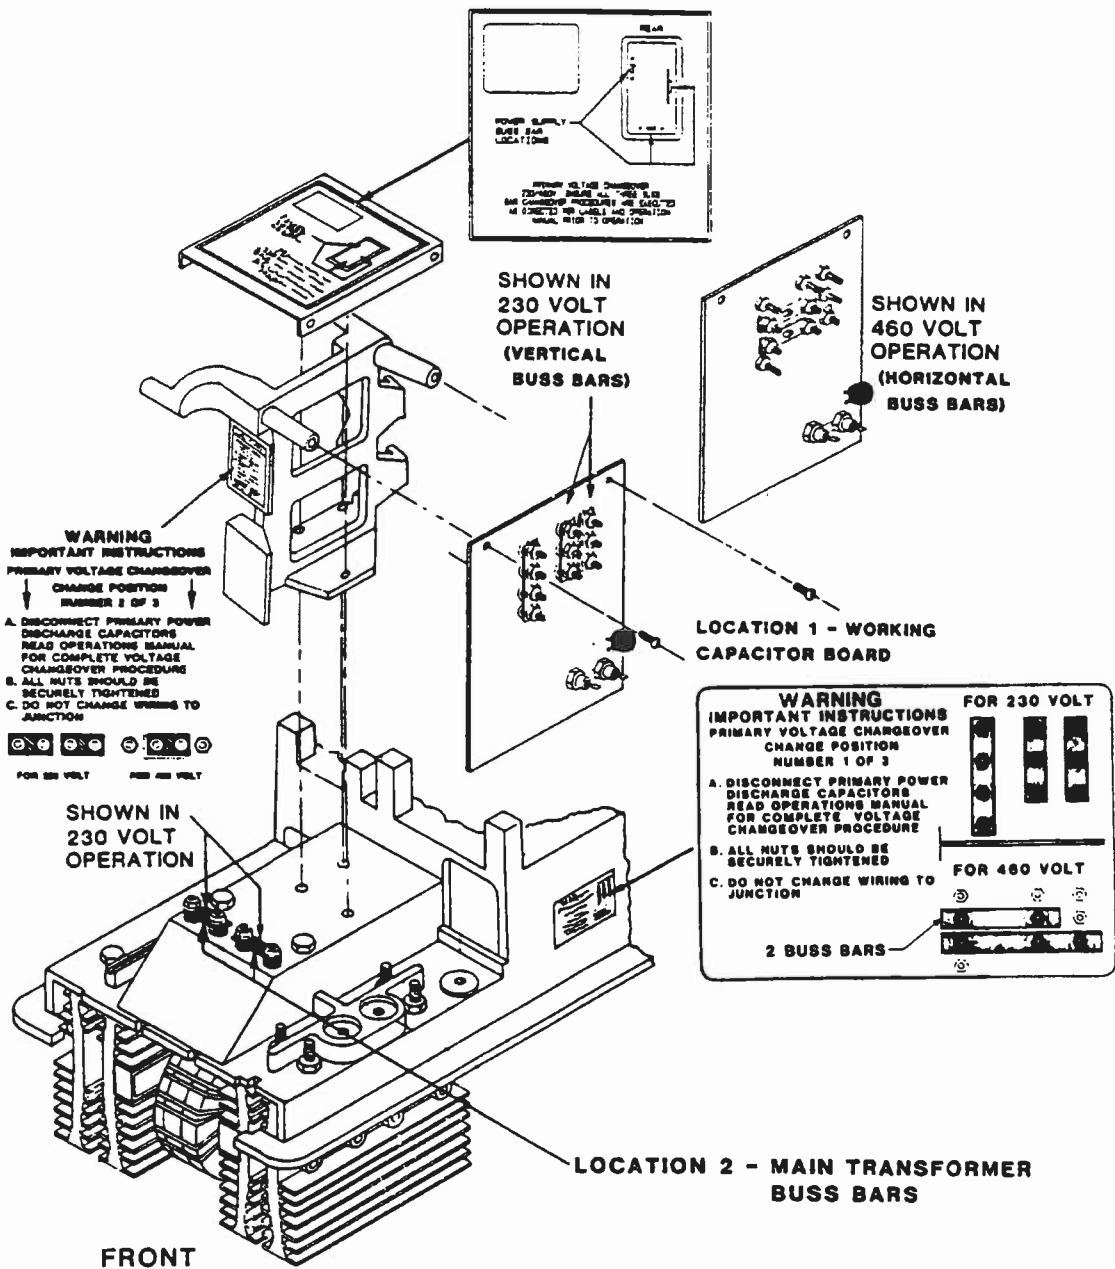

Figure 4, Location 1 and 2 Voltage Changeover
- 1) Working capacitor board (right front side of unit, see Figure 4.)
- 2) Copper buss bars for main transformer (front of unit, see Figure 4.)
- C) Identify the voltage change-over instruction labels for the copper buss bars and working capacitor board located as shown in Figures 4 and 5.
- A) Locate the working capacitor PC board as shown in Figure 4.
- A) Locate the instruction label for the copper buss bars shown in Location 2 of Figure 4.